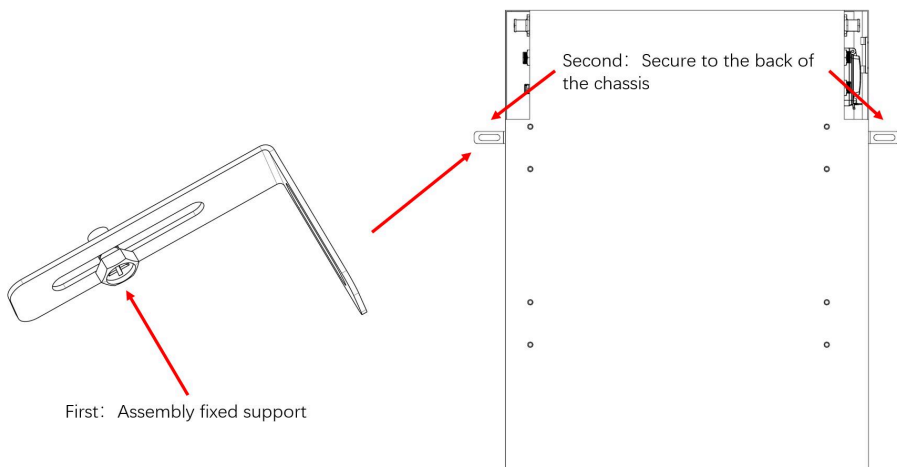

Figure 5-4
- c) Use the 2 screws of M6 to fix the left and right retaining ears to the back of the battery, as shown in Figure 5-4.